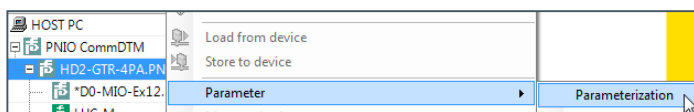

Figure 85: Search for setting to assign correct PROFIBUS PA device slots
- 8) Right-click the PROFINET gateway **HD2-GTR-4PA.PN**, then select **Parameter** > **Parameterization** (see: Figure 85: Search for setting to assign correct PROFIBUS PA device slots).